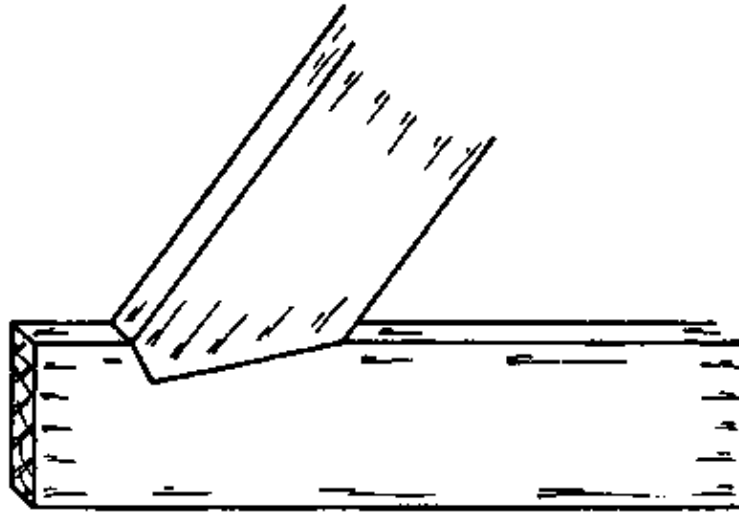

Fig. 3 (q)
q. Chisel the notches in the ledges (Fig. 3).